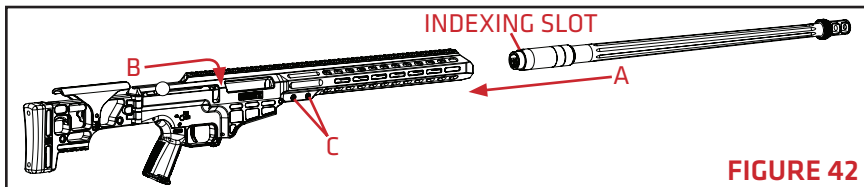

FIGURE 42
1. Insert the barrel into the upper receiver with indexing slot oriented in the 12 o'clock position ensuring the indexing slot engages the indexing pin in the upper receiver as the barrel is fully seated (**FIGURE 42-A**).
2. Slide the bolt handle forward until the bolt enters the barrel extension and lower the bolt handle to lock the bolt (**FIGURE 42-B**).
3. Torque the two barrel screws to 140 in/lbs. Tighten the rear barrel screw before the front one. Double check the torque is set at 140 in/ lbs prior to shooting (**FIGURE 42-C**).